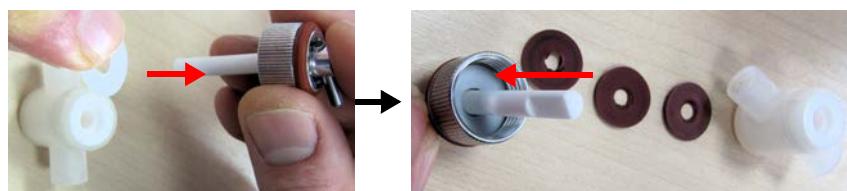

Figure 9-28. Sliding white Teflon washer over plunger, down into cap
4. As the white Teflon washer must be placed lowermost, slide it over the plunger, deepest into the cap. See arrows in Figure 9-28.